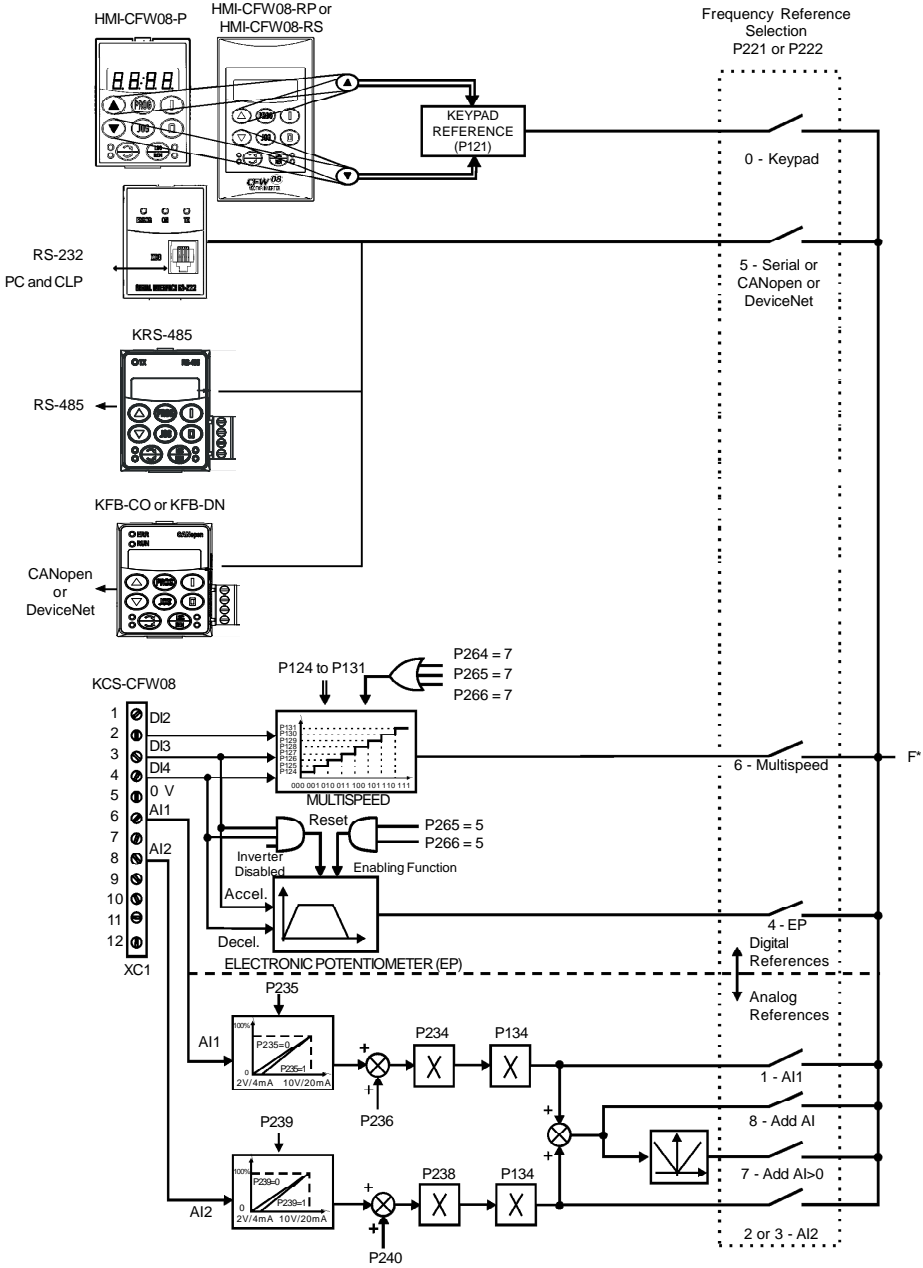

Figure 6.1 - Block diagram of the frequency reference
Figure 6.1 shows through a diagram block the frequency reference definition to be used by the inverter.
- ☑ In V/F control mode ($P202 = 0$ or 1), $I_e = I^*$ (refer to figure 6.1) if $P138 = 0$ (slip compensation disabled). If $P138 \neq 0$, refer to figure 6.9 for the relation between I_e and I^* .
- ☑ In vector control mode ($P202 = 2$) always $I_e = I^*$ (refer to figure 6.1).